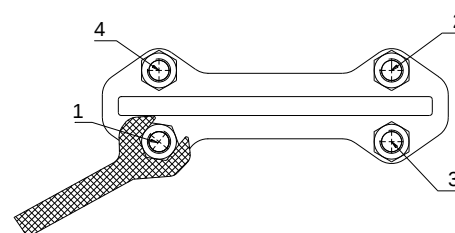

Figure 4: Tighten gland nuts crosswise
16. Put pressure on the gland **(8)** by tightening the nuts **(8c)** gradually and crosswise, see figure 4. The box packing must be equally compressed all around. Recommended torque for gland nuts, see section D.
- i. Lift off the cylinder (18).
- j. Demount the beam (7) and tie rods (5) from the valve.
4. Loosen the nuts (8c) on the gland (8).
5. Lift off the gland (8) from the stud bolts (8a).
6. Remove the box packing braids (9) and the box bottom scraper (9a).
8. Push down the box bottom scraper (9a) into the bottom of the gland box. Install the first braid (9) on one of the long sides of the gate (6). Use a blunt tool in plastic or wood and a hammer to push the braid into the box. Make sure that the braid ends meets properly. It is important to push the first braid evenly into the bottom of the box. The joint of the second and third braid must be placed on the opposite long side of the joint of the previous braid, not on top of each other.
9. Place the gland (8) on the stud bolts (8a).
11. Put pressure on the gland (8) by tightening the nuts (8c) gradually and crosswise, see figure 4. The box packing must be equally compressed all around. Recommended torque for gland nuts, see chapter D.
12. The gland (8) must put a uniform pressure on the box packing (9). The gland (8) must also be in line with the gate (6) with the same distance between the gland and the gate all around. Check that there is no metal contact between the gland (8) and the gate (6).